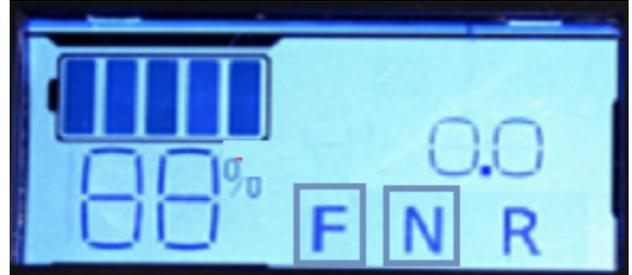

FIGURE 8
25. The “F” & “N” on the screen will have a box around them as shown in Figure 8.